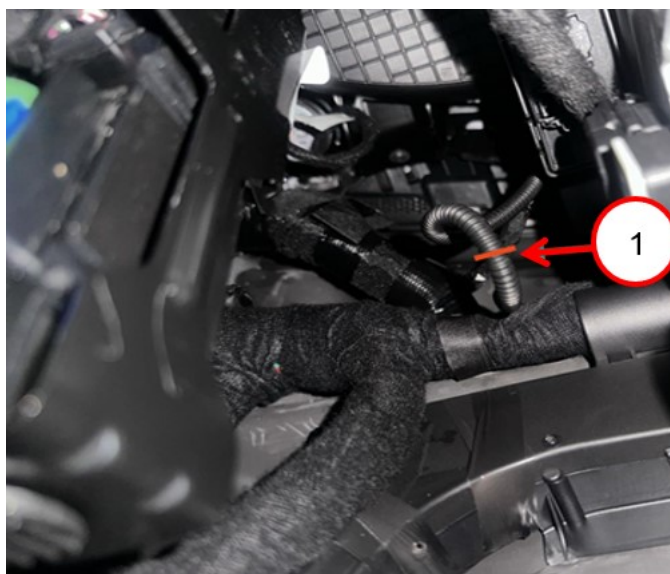

Fig. 6
12. Cut the damaged hose under the instrument panel Fig. 6. **Do not remove the hose at this time.**